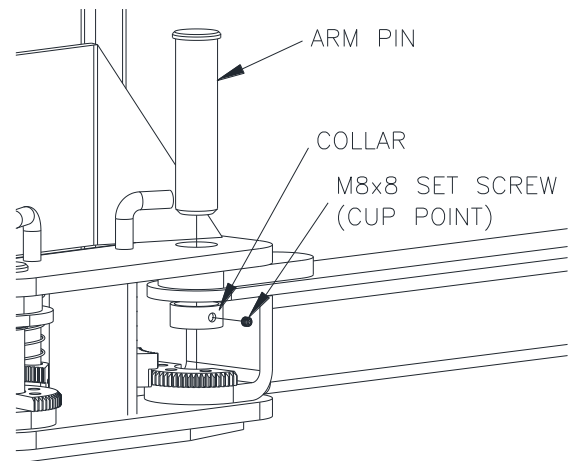

Fig. 11 –Arm Install
- 33) Lubricate the arm pin or carriage arm pin hole with “anti-seize” and install the arms as shown in **Fig. 11**. Once the set screw is finger tight against the arm pin, tighten ¼ turn with hex wrench.